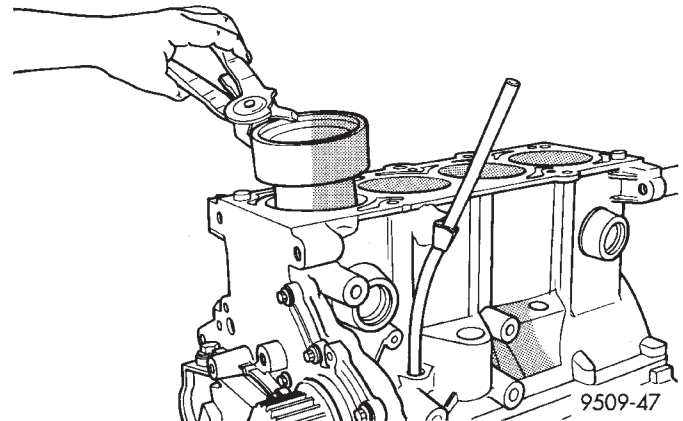

Fig. 93 Piston—Installation
(3) Immerse the piston head and rings in clean engine oil, slide the ring compressor, over the piston (Fig. 93). **Be sure position of rings does not change during this operation.**